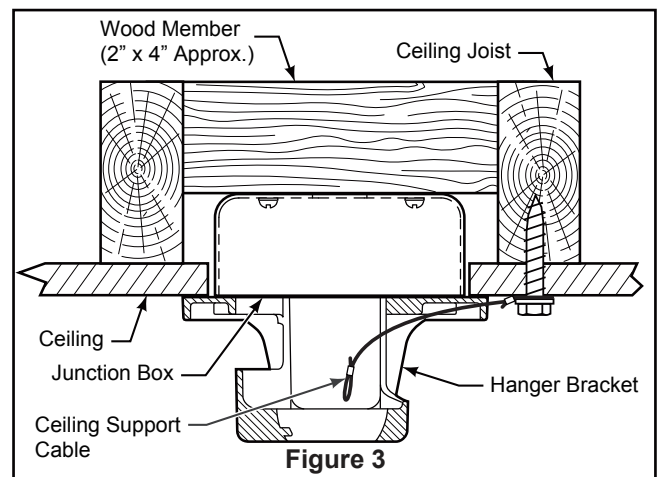

Figure 3
Deep box with brace (Figure 3)
3. Loosen the two set screws and locking nuts in the downrod support of the motor assembly. Route the black/white (or brown), blue, red, gray and yellow wires and safety cable through the downrod. (Figure 3)
1. Securely attach the hanger bracket to the outlet box using the outlet box screws and washers supplied with the outlet box. (Figure 3)
2. Drill a 1/4" pilot hole into the building structure to prevent splitting or cracking with installation of the lag bolt. Using the 3/8" x 2" lag bolt and flat washer, attach safety cable to ceiling joist or wood structural member. The lag bolt will pass through the flat washer, safety cable loop, and into the building structure. (Figure 3)
NOTE: Ceiling support cable cannot be secured to junction box only, it must be directly secured to ceiling joist or structural member using the 3/8" x 2" lag bolt and flat washer. (Figure 3)
- 2. Slide the receiver into the hanger bracket before wiring as shown in figure 3.